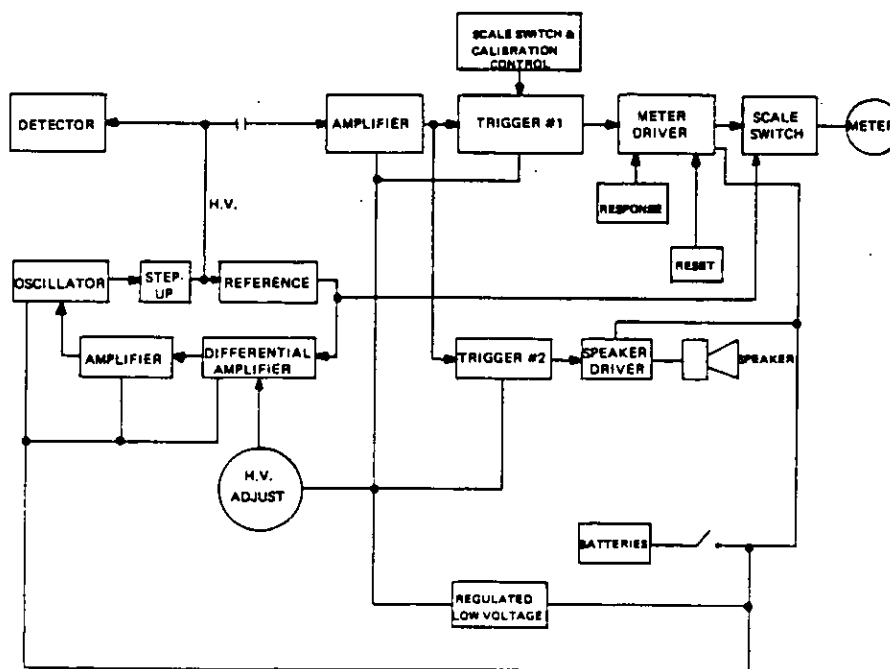

Figure 3-1. System Block Diagram
B. FUNCTIONAL THEORY (See Figure 3-1 and 6-1)